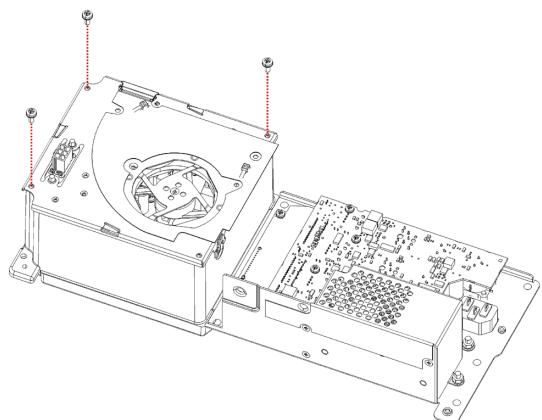

Figure 6.2.5 - Metal cover removal/installation steps
6. Remove the 3 machine screws as shown in Figure 6.2.5.
13. Fasten the 3 machine screws to secure the metal cover to the heatsink as shown in Figure 6.2.5.